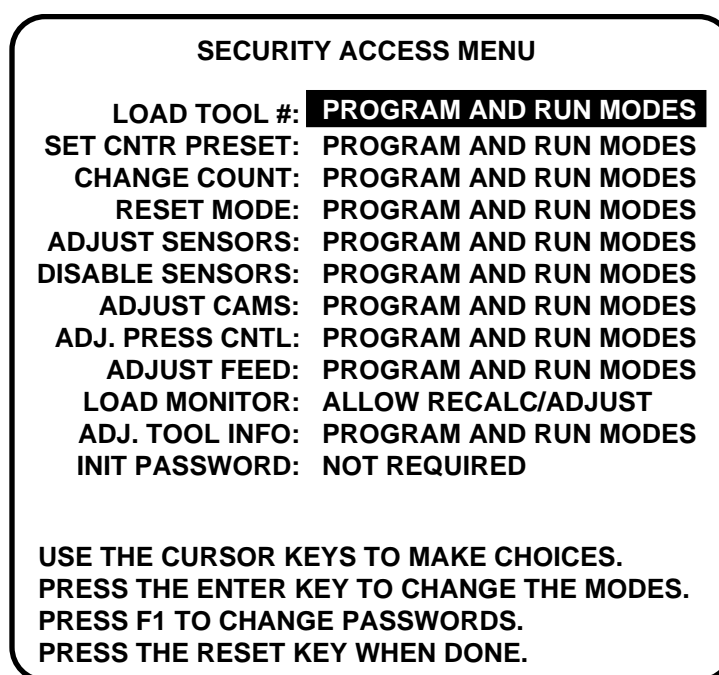

Figure 4-21. Security Access default settings
Use the Security access choice in the Initialization menu to prevent unauthorized access to SmartPAC settings. For most items shown in Figure 4-21, on the next page, you can choose the level of security that meets your needs:
2. The display appears similar to Figure 4-21. Press **F1**.